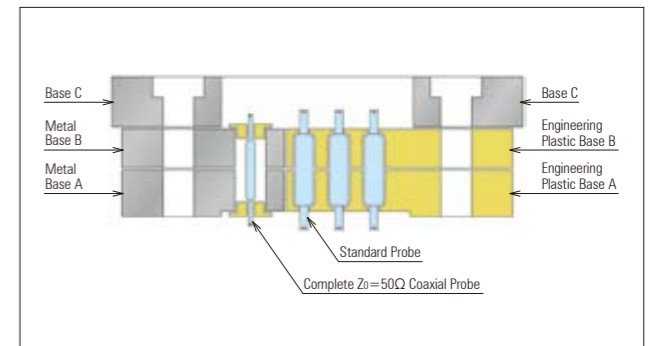

Fig. 1 Complete Z₀=50Ω Coaxial Probe IC Socket
In order to design and realize IC socket for super high frequency (SHF) performance, it is necessary to organize and position complete coaxial probes, GND probes, Power Supply probes, and other Signal probes. (Refer to Photo.2 & Fig.1)
Concept of RF-C Socket is to structure a complete coaxial Z₀=50Ω probe contact to achieve a characteristic impedance Z₀=50Ω on any position of the probe connection length such as including lower plunger, barrel and upper plunger between PCB land and IC terminal. This coaxial probe contact can achieve Z₀=50Ω at any portion on contact length by composed two type of dielectrics and calculated coaxial core diameter of probe. (Refer to Fig.1 & (5) for detail)